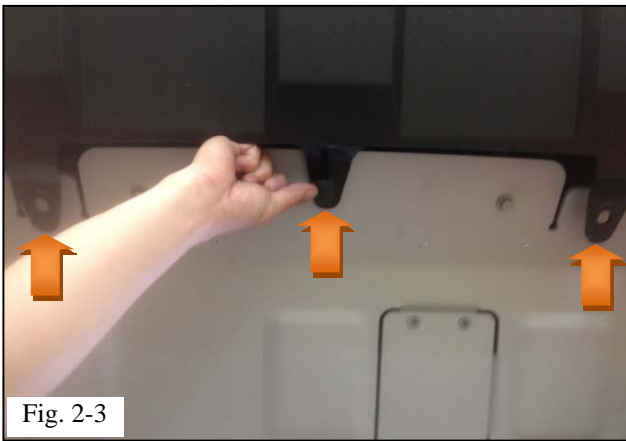

Fig. 2-3
**⚠ CAUTION:** Ensure the bumper plastic tabs are on the outside of the skid plate (3 Places) (Fig 2-3).